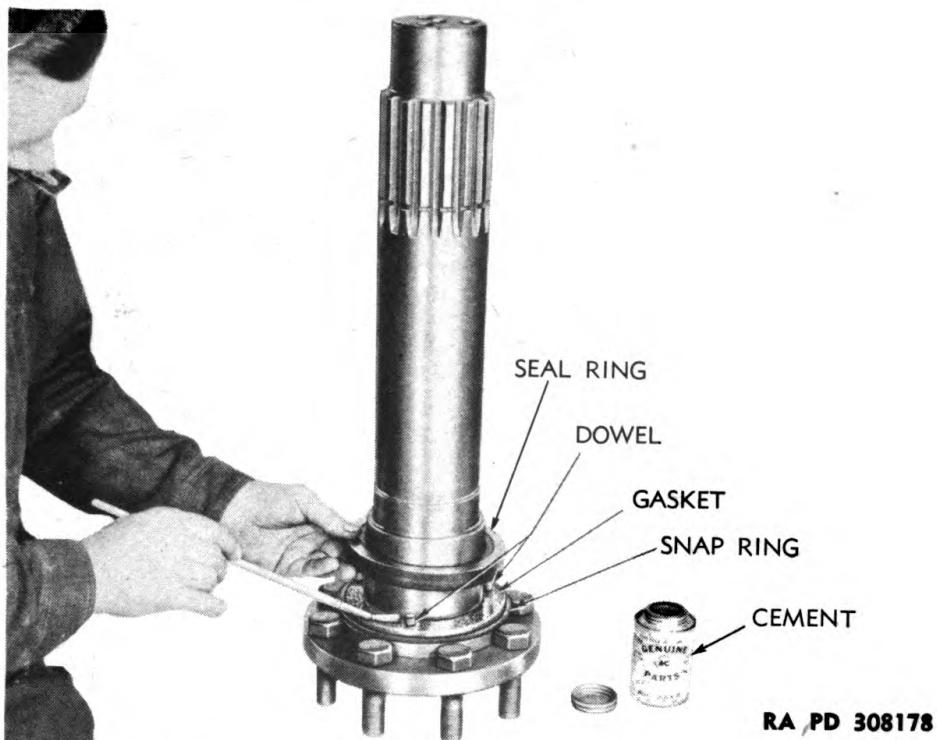
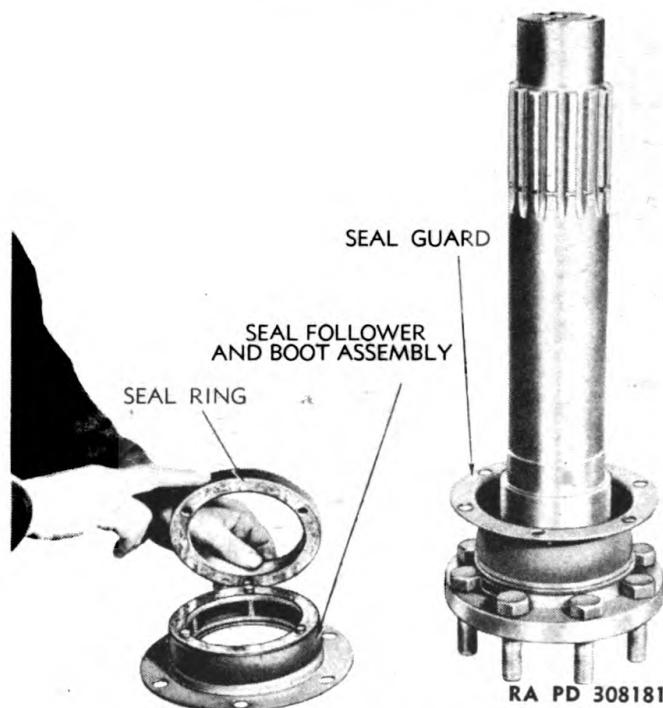
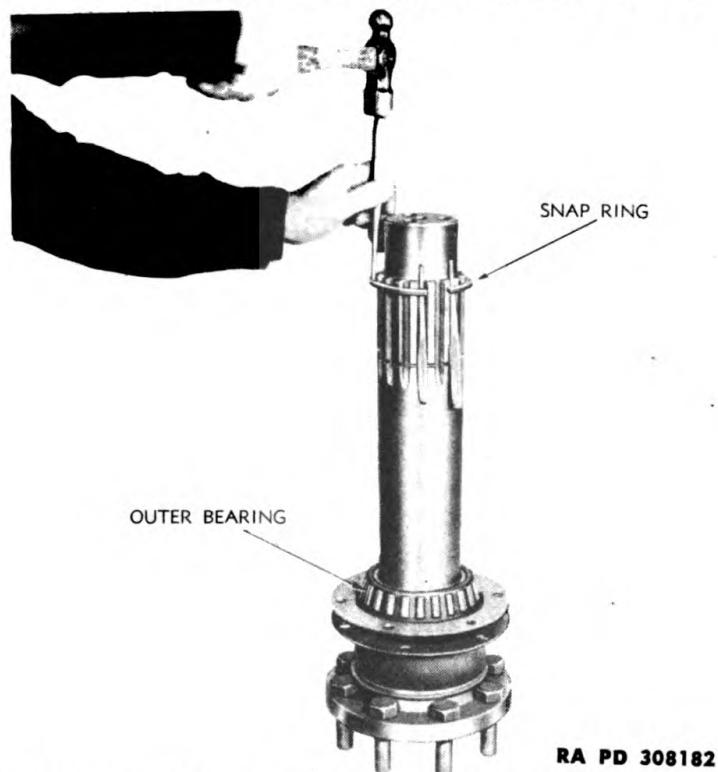

Figure 76 – Installing Outer Seal Ring
Figure 79 – Installing Inner Seal Ring on Follower
Figure 80 – Installing Snap Ring on Sprocket Shaft
a. Assemble Sprocket Shaft Assembly. Drive sprocket hub bolts into flange of shaft if they were removed and install snap ring in groove behind bolts. Using nonvulcanizing rubber cement, secure seal gasket to inner side of flange, then coat upper side of gasket with cement (fig. 76) and set outer seal ring on dowels and gasket with sealing surface of ring up. If spring seal follower assembly was disassembled, install springs on the pins in follower, then set washer on pins above springs. Install seal boot on follower and cement inner sides of boot to sides of follower (fig. 77). Place seal plate on projecting pins (fig. 78) and compress springs enough to install cotter pins. Coat opposite outer side of seal boot with cement and place inner seal ring on projecting pins of follower (fig. 79). Lay follower assembly on bench with seal ring up, lay clean cloth on seal ring, and place weight on ring to hold ring tightly against follower until cement dries. Then place seal guard on shaft and lower seal plate with follower and inner seal ring into guard so sealing surfaces of seal rings contact each other. Press outer bearing onto shaft against shoulder. Install snap ring in groove of splines on shaft (fig. 80).